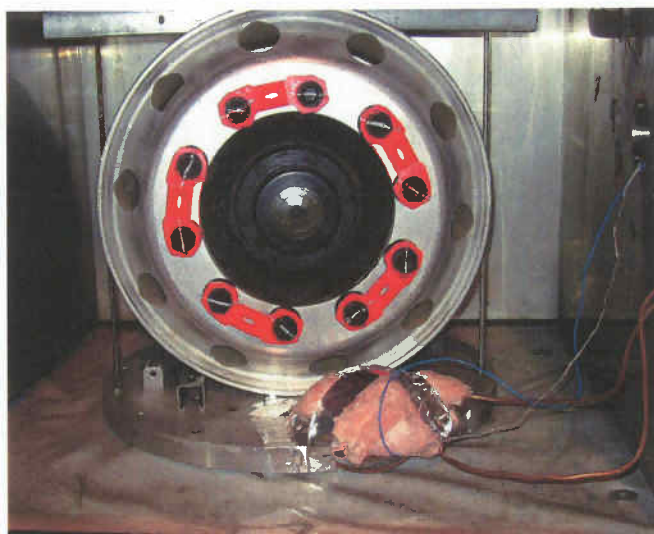
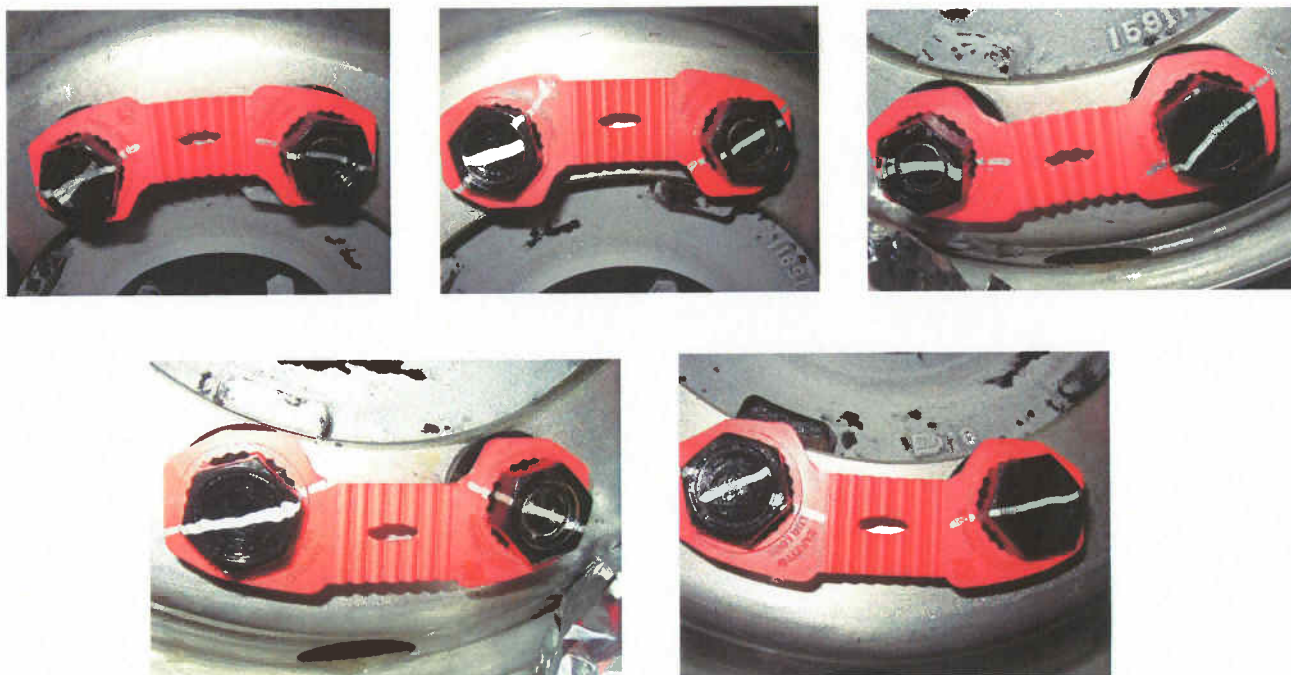

Figure 5A
Figure 6A
3. 26" Hub Pilot Alloy Rim, after vibration testing at -40°C: Figure 5A and Figure 6A.